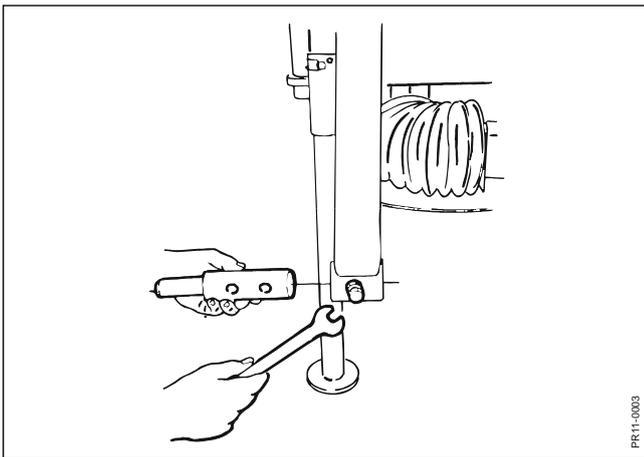

Fig. 2-3
- Fig. 2-3:** The right hand lift arm can be adjusted sideways and thus be adjusted to the width of the tractor.